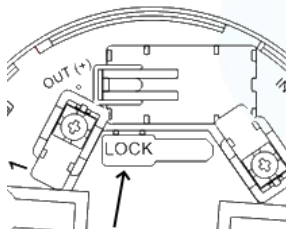

Fig.3
- Remove the key from the base beforehand (Fig. 3)